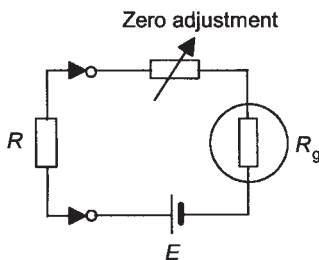

Figure 9.23 Ohmmeter
Figure 9.23 shows one form of a basic *ohmmeter* circuit. A battery of e.m.f. E is connected in series with the meter resistance R_g , a zero adjustment resistor and the resistance R being measured. With R equal to zero, i.e. the terminals of the ohmmeter short circuited, the zero adjustment resistor R_z is adjusted so that the meter gives a full scale deflection, this corresponding to the 0 mark on the resistance scale. When R is across the instrument terminals then the total resistance in the circuit is increased and so the current I reduces from the zero value and can be used as a measure of the resistance R :
An ohmmeter circuit, of the form indicated in Figure 9.23, is used to measure a resistance R . The moving coil meter used has a resistance of $50\ \Omega$ and a full scale deflection of $10\ \text{mA}$. The ohmmeter battery has an e.m.f. of $1.0\ \text{V}$. What should be the value of the zero adjustment resistance for there to be zero current when $R = 0$ and what then will be the value of R which will give the mid-scale reading on the meter?
- 27 An ohmmeter, of the form shown in Figure 9.23, uses a basic meter movement of resistance 50 Ω and having a full scale deflection of 1 mA. The meter is to be used with a shunt. With a 3 V battery, what will be the shunt resistance and the zero adjustment resistance if the mid-scale reading of the instrument is to occur when the measured resistance R is 2 k Ω ?